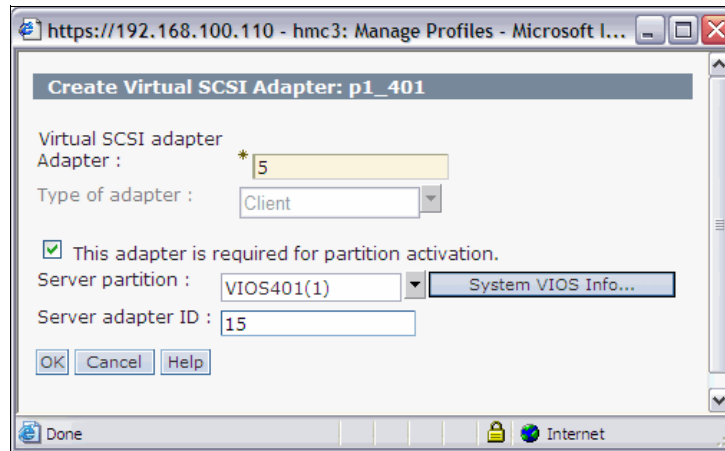

Figure 5-5 Create Virtual SCSI Adapter Panel
12. Create a client virtual SCSI adapter. Select your client partition and navigate through, selecting your profile for the **Create** → **Virtual Adapters** task. You can fill the panel in with the required information, similar to the panel shown in Figure 5-5.